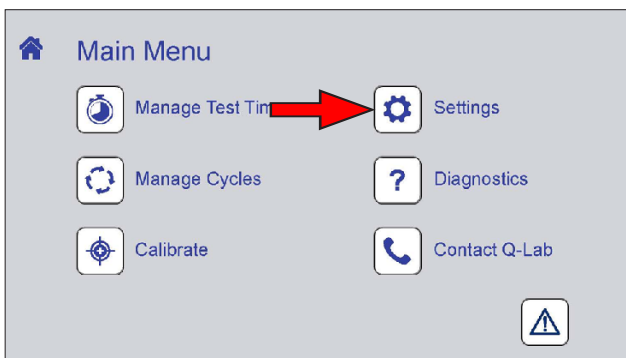

Figure 9.7a: Touch the Settings icon on the Main Menu screen to display settings controls.
- On the Main Menu screen touch the Settings icon (Figure 9.7a) to display the Settings screen.